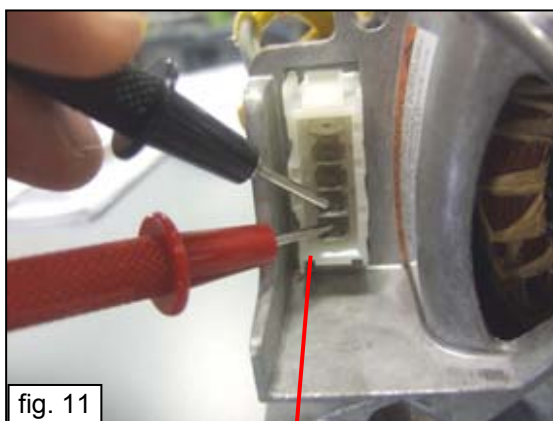

fig. 11
- 4) Check each winding against the values shown in the table below (**fig. 11**).